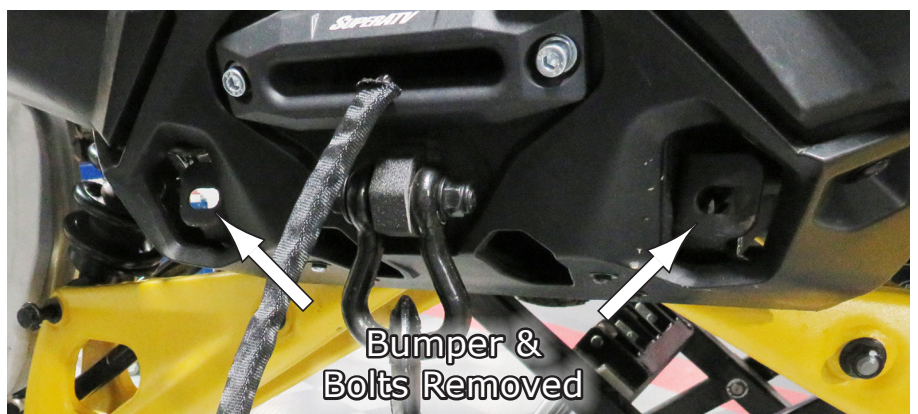

Fig.3
3. **Fig.3** shows Bumper and Bolts removed from the vehicle.